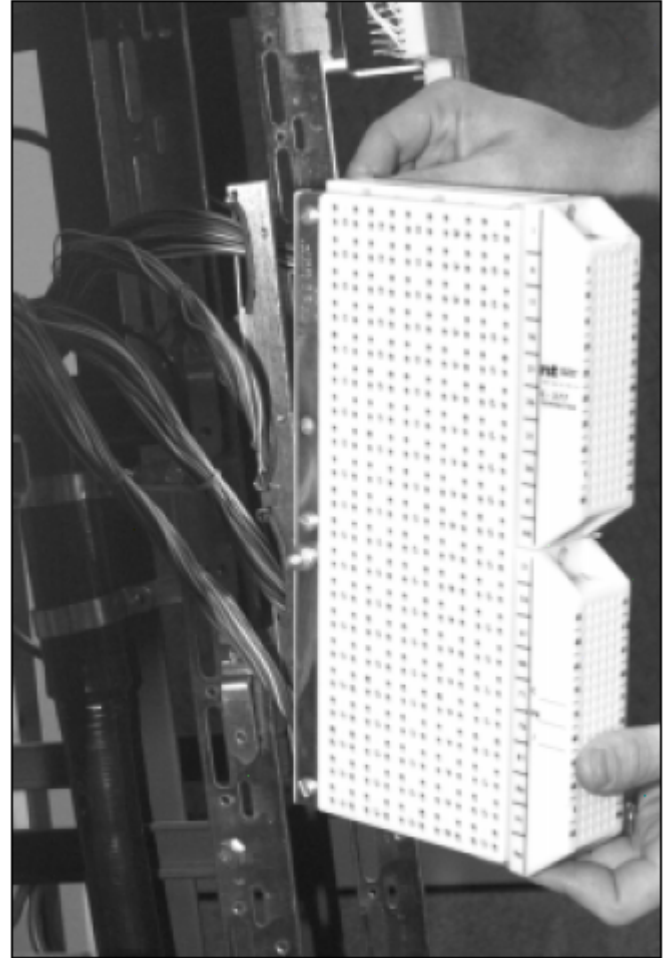

Figure 12 – Replacing Connector Base
8.9 Replace connector base on oblique angle mounting bracket (Figure 12). Make sure the two mounting bracket screws fit fully into the two recessed holes in connector base, and the connector ground stud is fully inserted into the mounting bracket notch. Tighten screws and ground stud.